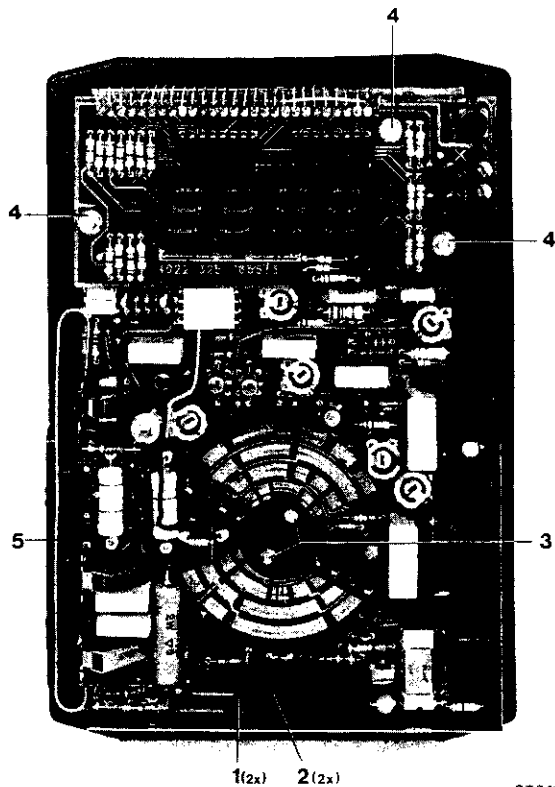

Fig. 40.
4.3.1. Slide switch ON/STAND BY/OFF S2 (Figure 40)
Remove the two retaining rings from the slide bodies (item 1 Fig. 40). The slide switch consists of two bodies. In the bottom body the switch contacts are situated. A switch contact consists of a spring and a slider.
4.3.2.2. Printed circuit board part S1 (Figure 40)
- Remove the screws and nuts from the slide bodies (item 3). The bodies can be lifted from the p.c. board now.
4.3.5. Display unit N2 (Figure 40)
4.3.6. Shunt R 602 (Figure 40, item 5)